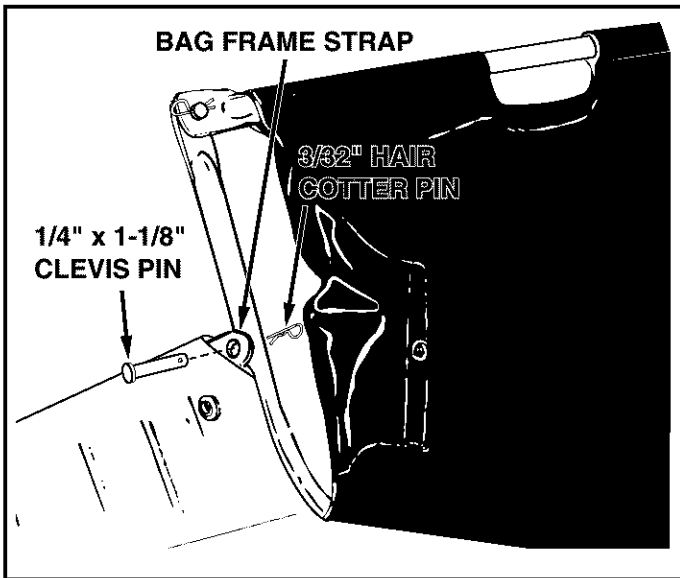

FIGURE 13
- Insert the bag frame strap into the stitched sleeve along the front edge of the bag bottom. See figure 13.
- Assemble the bag frame strap to the holes in the lower hopper tubes using two 1/4" x 1-1/8" clevis pins and 3/32" hair cotter pins. See figure 13.